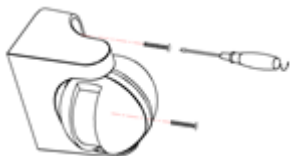

Figure 1
- Loosen the screw in the back and unload the bottom (refer to figure 1).